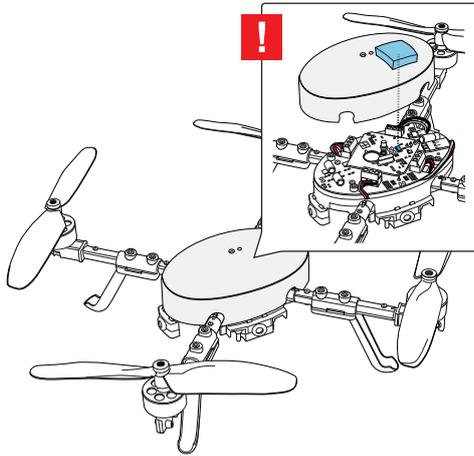

Fig. 16
- > Additionally, cables will not be pinched when mounting the canopy correctly. Observe [Fig. 16].